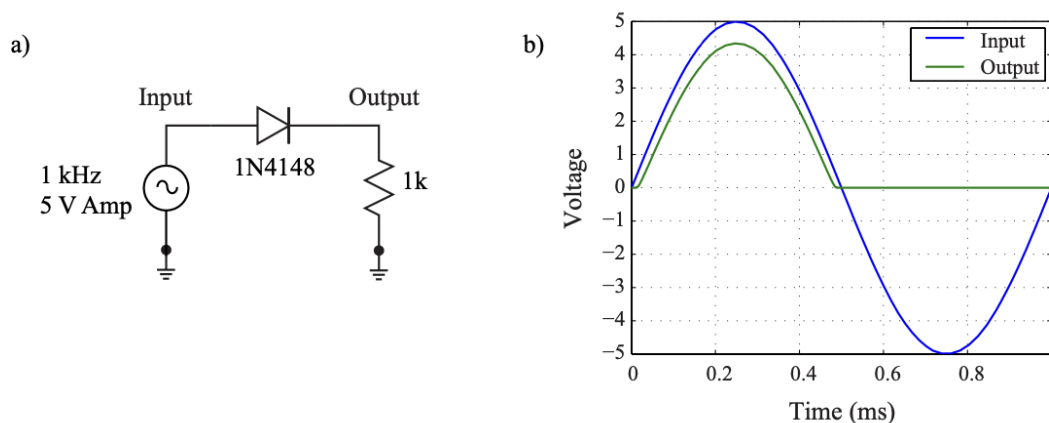

Figure 7.2: A simple half-wave rectifier (a) and the resulting input and output signals (b).
Signal rectification is the process of converting an alternating signal in to its positive or negative components. Figure 7.2 is an example of a simple half-wave rectifier. After the input sine wave passes the diodes forward bias voltage, ≈ 0.7 V, the diode conducts and passes the positive half of the sine wave but doesn't pass the negative half of the sine wave because the diode is reverse bias and does not conduct.
1. Build the circuit in Figure 7.2 (a). Set the input to a 1 kHz, 5 V amplitude sine wave and run a transient simulation with a stop time of 1m (.tran 1m) and plot the input and output. To use the 1N4148 diode model, right click on the diode after placing it, Pick New Diode, and then choose the 1N4148 model (Mfg. OnSemi). Save an image of the circuit and the plot of the input and output voltage.